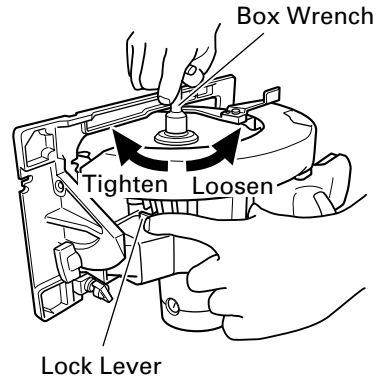
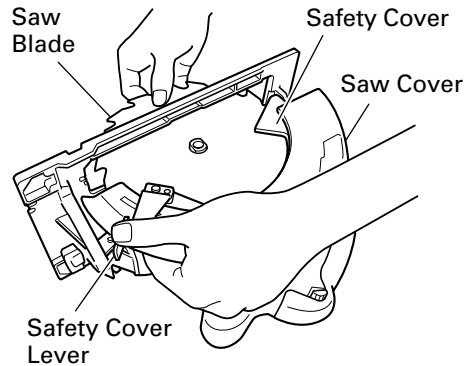

Fig. 19
Fig. 20
- (1) Set the cutting volume at maximum, and place the Circular Saw as shown in Fig. 19.
- (2) Depress the lock lever, lock the spindle, and remove the hexagonal-flange bolt and washer(B) with the box wrench.
- (3) While holding the safety cover lever to keep the safety cover fully retracted into the saw cover, remove the saw blade. (Fig. 20)